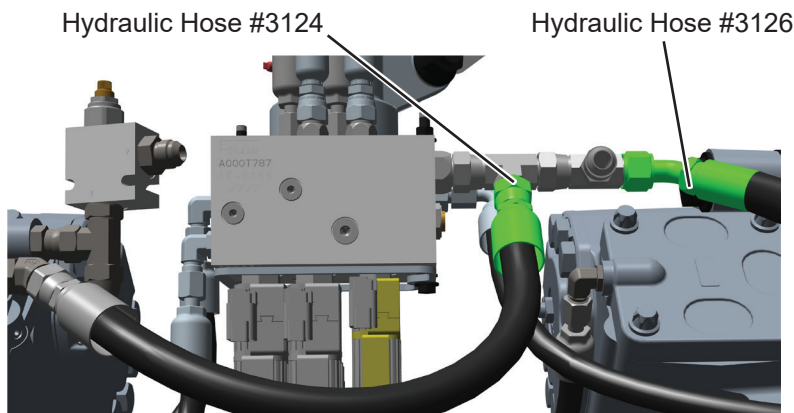

Figure 10. Chute Manifold Hose Connections
12. Reconnect hydraulic hose #3124 disconnected in Step 5 to inner T-fitting. See Figure 10. Final tighten hose end to 58 ft. lbs.
13. Reconnect hydraulic hose #3126 disconnected in Step 6 to inner T-fitting. See Figure 10. Final tighten hose end to 58 ft. lbs.